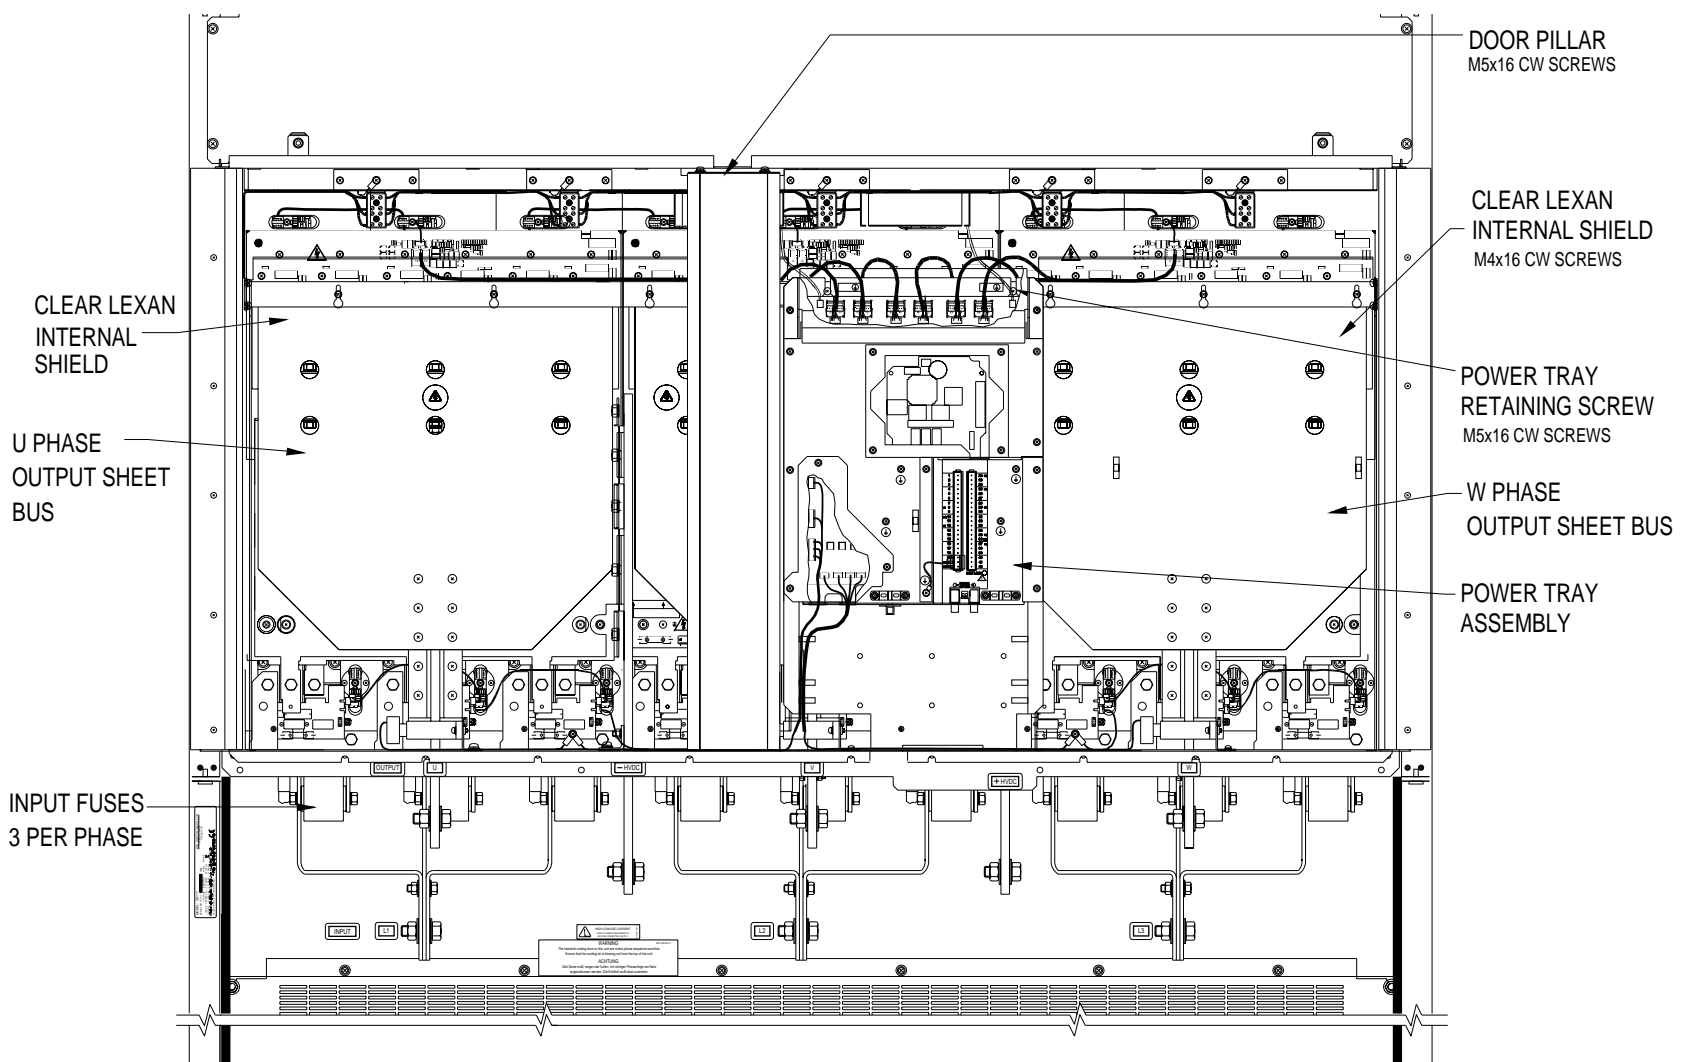

Figure 7.12: Frame 7 Power Tray Removal
Refer to figure 7.12.
- 1) The door pillar which is held by 8 off M5x16 CW screws. See figure 7.12.
- 2) The Lexan shield 2 off M5x16 CW screws. See figure 7.12.